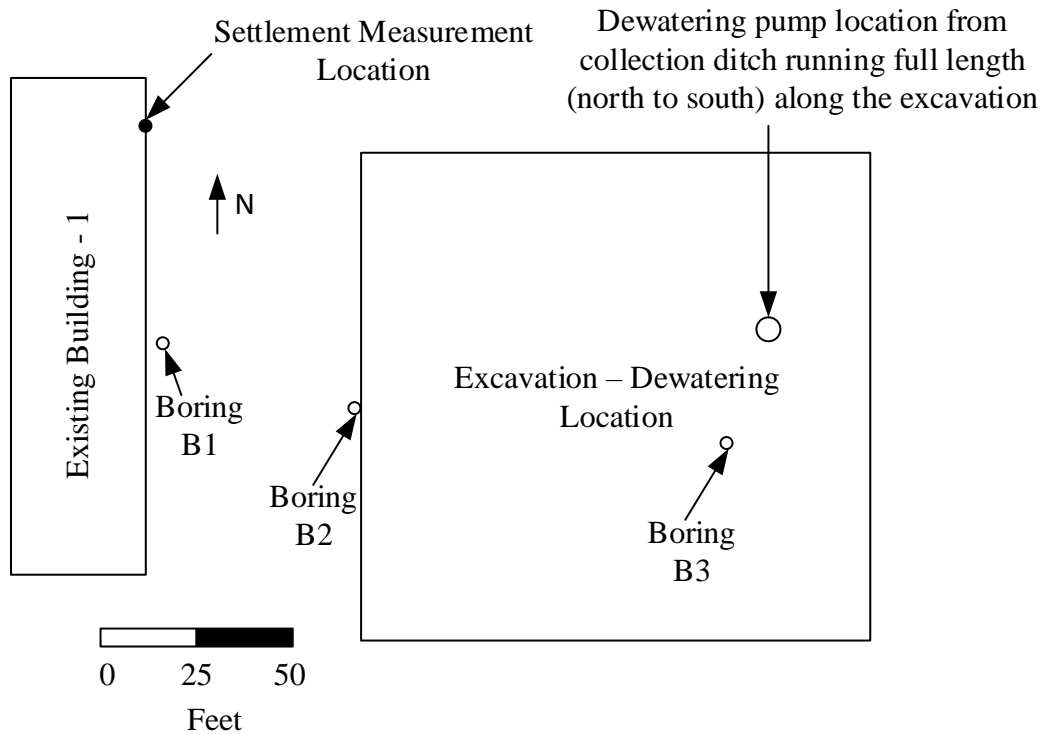

Figure 1. Site overview
An existing six-story building (existing building 1) is located at a site shown in Figure 1. This building is founded on a mat foundation. Construction of this building proceeded as follows:
5. Settlement was measured over several decades at the edge of the building (shown in Figure 1).
A new building (many years after the construction of the existing building) is constructed adjacent to the existing building (Figure 1). The sequence of construction is as follows:
3. Excavation for the building began. Groundwater pumping (at the location shown in Figure 1) was started as the excavation progressed. It took 59 days for the excavation to reach the final level of the new building foundation at 220.0 feet.
Your task is to estimate how much settlement occurred at the measurement location in Figure 1 after 150 and 285 days of groundwater pumping at the adjacent site. Three borings are provided for your reference along with laboratory testing. High precision instruments placed along the excavation wall and between the excavation and building showed that vertical settlement of the existing building was not influenced by excavation activities and only resulted from a lowering of the water table.
Table 4. Dewatering activities occurring at the excavation (location of pumping in Figure 1)